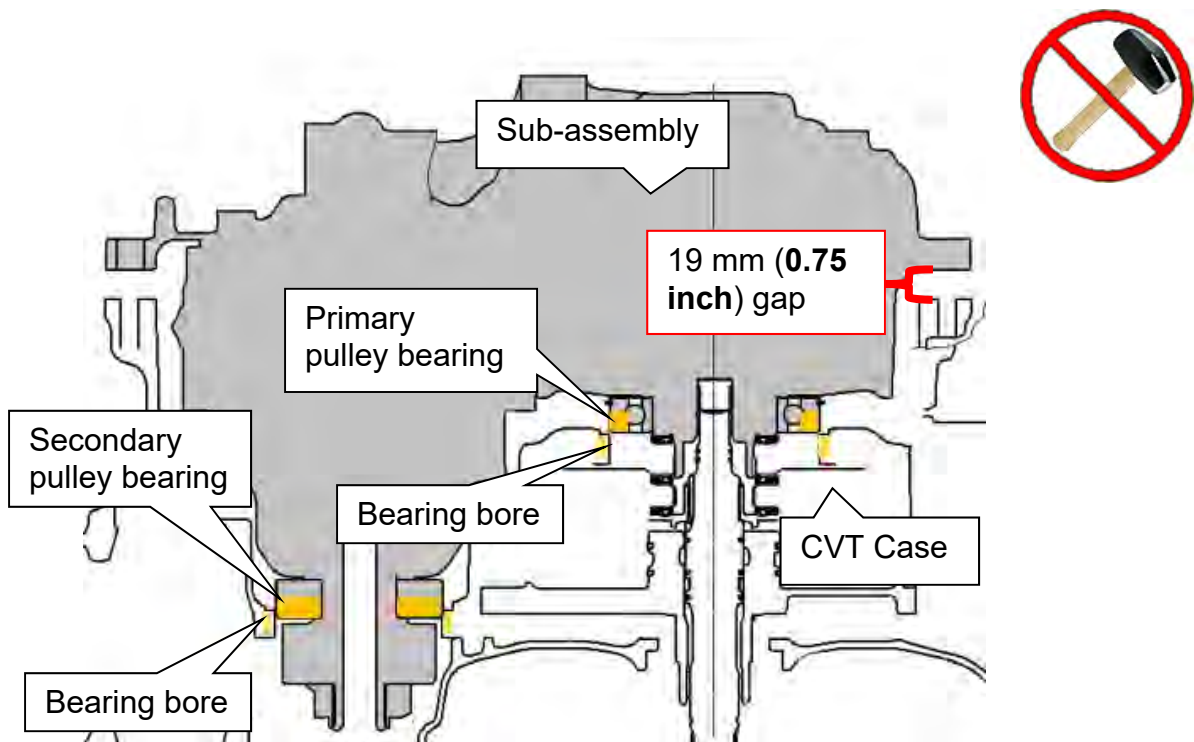

Figure 113
- If the primary and the secondary pulley bearings do not align properly with their bores (Figure 113) or are at an angle, a **gap of 19 mm (0.75 inches)** may be present.